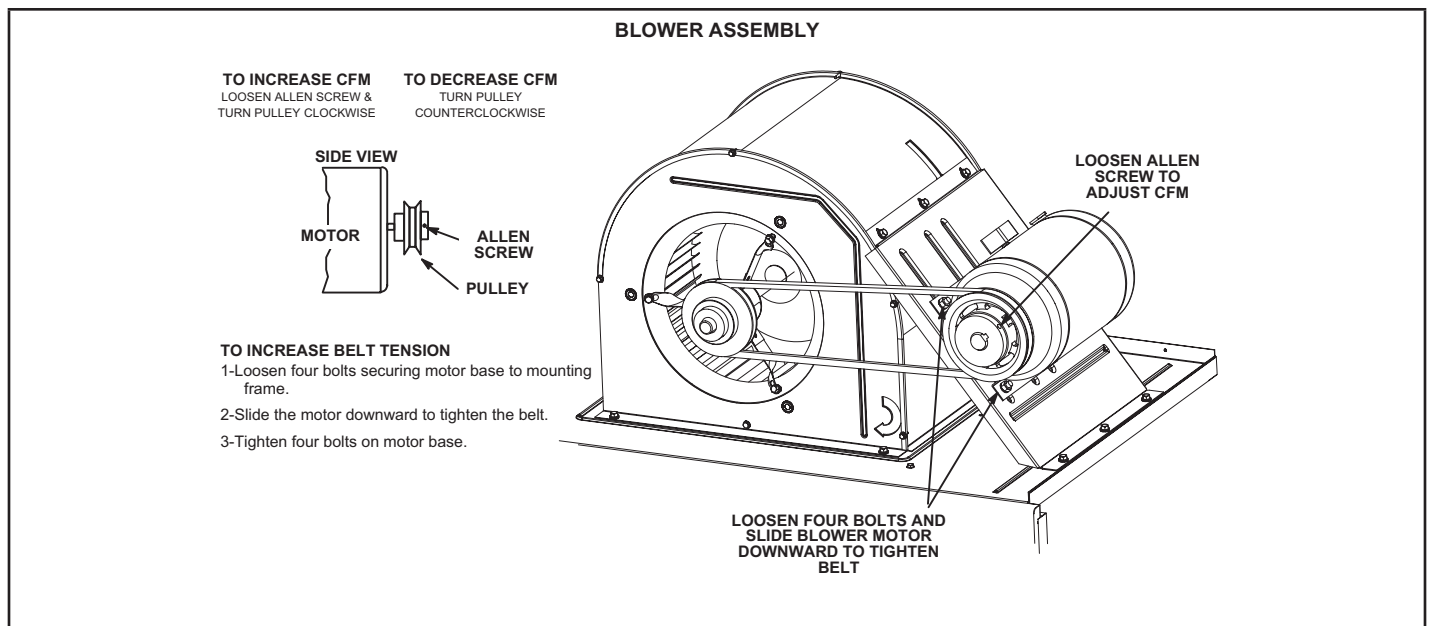

FIGURE 10
- 5 - The blower RPM can be adjusted at the motor pulley. Loosen Allen screw and turn adjustable pulley clockwise to increase CFM. Turn counterclockwise to decrease CFM. See FIGURE 10 Do not exceed minimum and maximum number of pulley turns as shown in TABLE 2.
- 1 - Loosen four bolts securing motor base to mounting frame. See FIGURE 10.